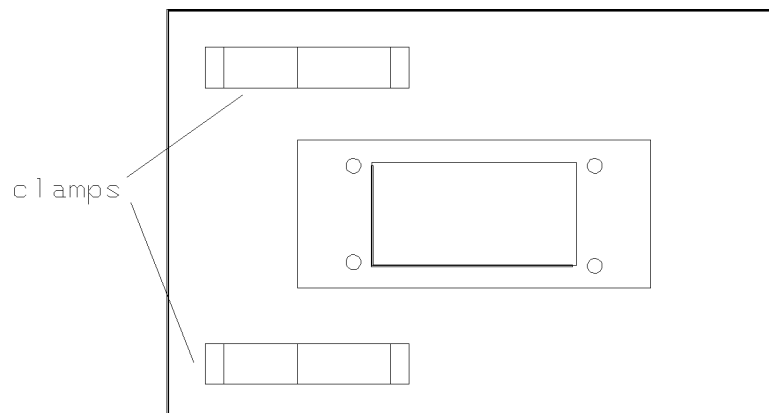

Figure 8-2. DUT Interface - Top Frame
1. Refer to Figure 8-2, release the clamps holding the top frame in position.